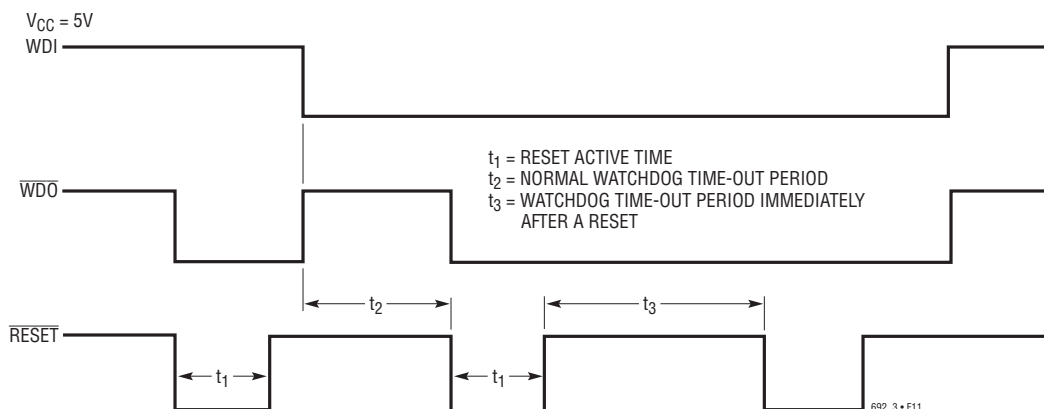

Figure 11. Watchdog Time-Out Period and Reset Active Time
**WDI:** Watchdog Input. WDI is a three level input. Driving WDI either high or low for longer than the watchdog time-out period, forces both  $\overline{\text{RESET}}$  and  $\overline{\text{WDO}}$  low. Floating WDI disables the watchdog timer. The timer resets itself with each transition of the watchdog input (see Figure 11).
**$\overline{\text{WDO}}$ :** Watchdog Logic Output. When the watchdog input remains either high or low for longer than the watchdog time-out period,  $\overline{\text{WDO}}$  goes low.  $\overline{\text{WDO}}$  is set high whenever there is a transition on the WDI pin, or  $\overline{\text{LOW LINE}}$  goes low. The watchdog timer can be disabled by floating WDI (see Figure 11).
The LTC692/LTC693 provide a watchdog timer function to monitor the activity of the microprocessor. If the microprocessor does not toggle the watchdog input (WDI) within a selected time-out period,  $\overline{\text{RESET}}$  is forced to active low for a minimum of 140ms. The reset active time is adjustable on the LTC693. Since many systems cannot service the watchdog timer immediately after a reset, the LTC693 has longer time-out period (1.0 second minimum) right after a reset is issued. The normal time-out period (70ms minimum) becomes effective following the first transition of WDI after  $\overline{\text{RESET}}$  is inactive. The watchdog time-out period is fixed at a 1.0 second minimum on the LTC692. Figure 11 shows the timing diagram of watchdog time-out period and reset active time. The watchdog time-out period is restarted as soon as  $\overline{\text{RESET}}$  is inactive. When either a high-to-low or low-to-high transition occurs at the WDI pin prior to time-out, the watchdog timer is reset and begins to time-out again. To ensure the watchdog timer does not time-out, either a high-to-low or low-to-high transition on the WDI pin must occur at or less than the minimum time-out period. If the input to the WDI pin remains either high or low, reset pulses will be issued every 1.6 seconds typically. The watchdog timer can be deactivated by floating the WDI pin. The timer is also disabled when  $V_{\text{CC}}$  falls below the reset voltage threshold or  $V_{\text{BATT}}$ .